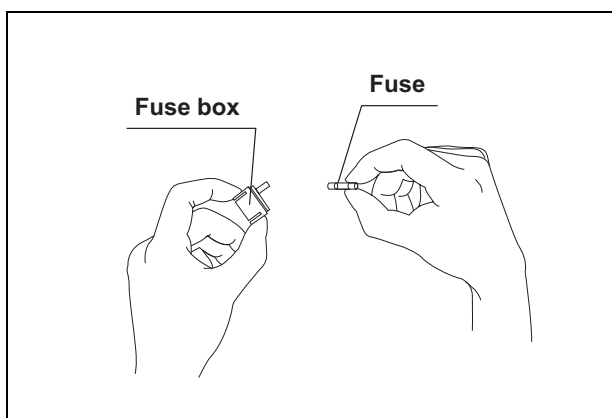

Figure 4.2
5. Inspect the fuses. Even if only one fuse has blown, always replace both of them (see Figure 4.2).